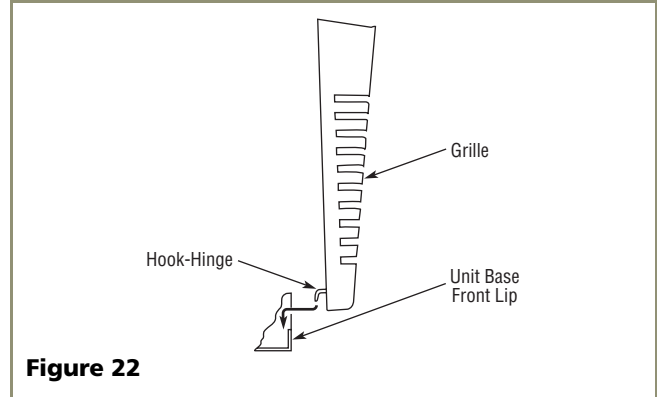

Figure 22
3. Place the two hook-hinges (located on the rear bottom side of the grille) onto the front lip of the unit base. Swing the grille up into position, aligning the grille screw hole on the grille to the grille screw hole on the cabinet. See **Figure 22**.